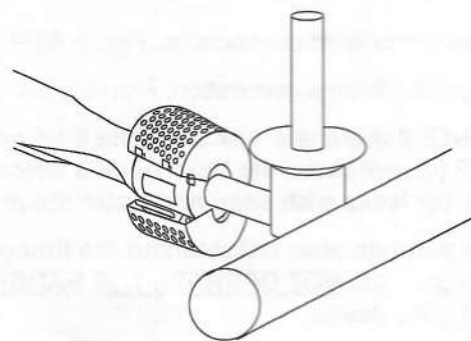

Figure 12
- d) Unlatch the Spider Stopper Guards and remove. Figure 12.